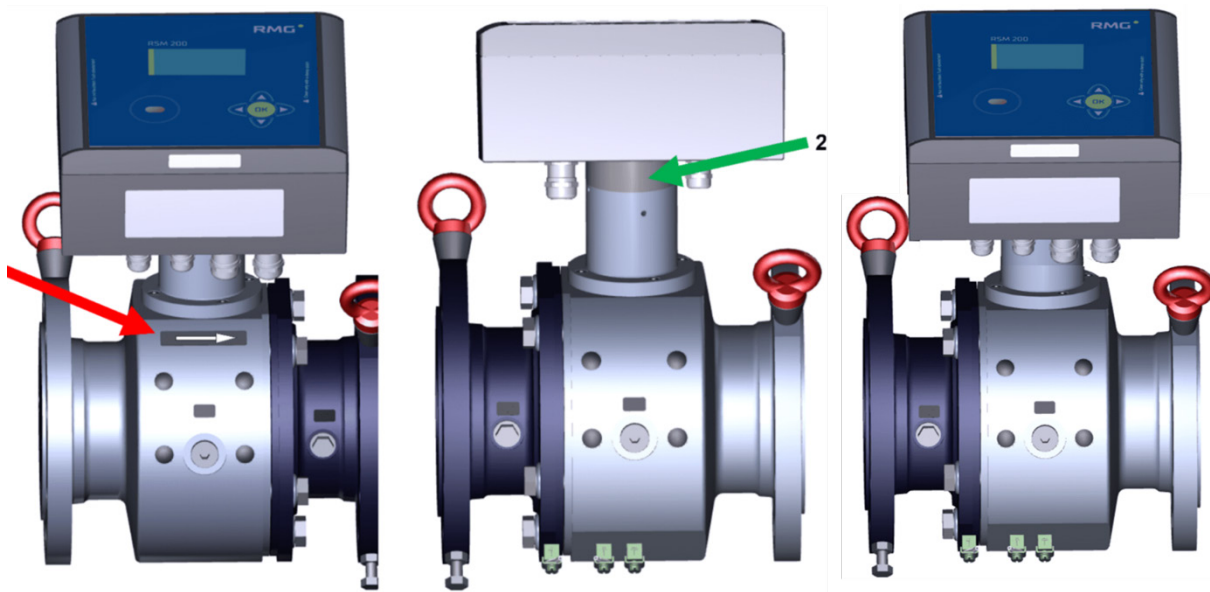

Figure 8: Rotating the display
The RSM 200 is offered in 2 versions; first, the display faces you and the flow direction is from the left side to the right side. Second, the flow direction is reversed. In the *Figure 8: Rotating the display* the red arrow (1) indicates the flow direction for version 1. The display is tilted downwards at the front, so rainwater runs off and readability from the front is improved.
However, the orientation can be easily changed. The extension on the plug-in axle, green in the illustration (2) between the measuring device and the electronics must be turned 180° for this purpose. In doing so, the device loses neither its calibration nor its parameterization. The measuring device on the right side of figure 8 shows the changed orientation.